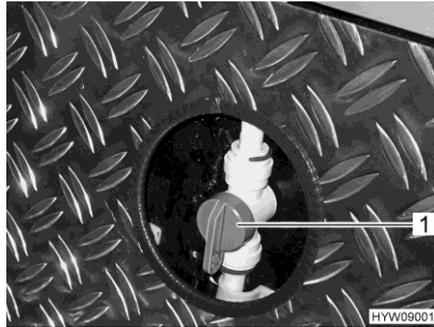

Fig. 181 Inlet valves (rear garage heating)
- Adjust the handle (Fig. 181,1) on the inlet valve for the rear garage heating so that it is parallel to the heating pipe. The rear garage heating is now working at maximum power.
- Set the handle (Fig. 181,1) on the inlet valve for the rear garage heating to the desired position. This enables the hot water distribution to the rear garage to be continuously adjusted.
- Set the handle (Fig. 181,1) on the inlet valve for the rear garage heating so that it is horizontal to the heating pipe. The rear garage heating is now switched off.